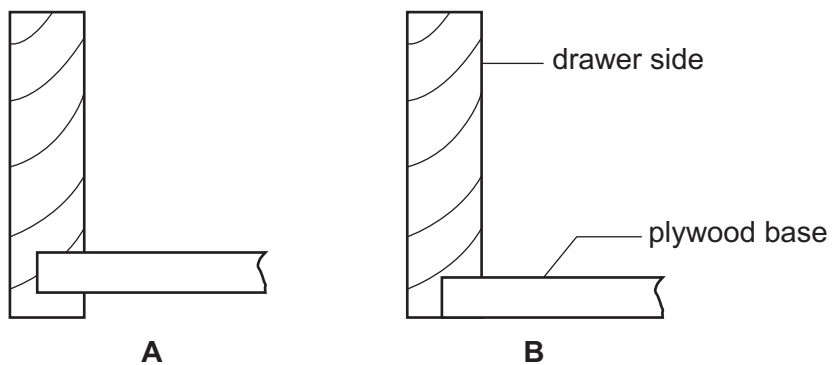

Fig. 11.3
- (d) Fig. 11.3 shows two constructions, **A** and **B**, that could be used to fit a 6 mm thick plywood base to the tray.